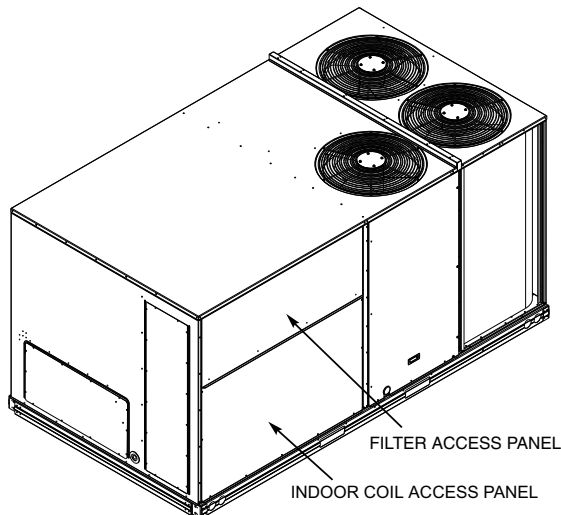

Fig. 26 — Typical Access Panel Locations (Size 16)
2. To gain access to the hood, remove the filter access panel. (See Fig. 26.)